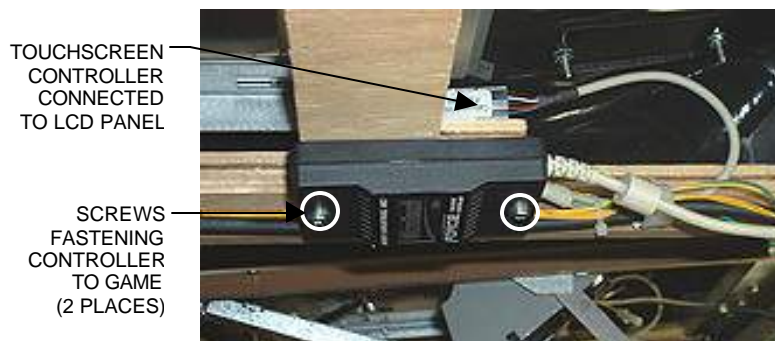

FIGURE 6 - FUSION WITHOUT ELECTRONICS BOX - TOUCHSCREEN CONTROLLER MOUNTED ON BEZEL
4. If you will not be reusing the existing touchscreen, remove the screws fastening the touchscreen controller to the game and disconnect the cable from the back of the controller. Then locate and disconnect the Molex connector (orange and gray wires) running from the touchscreen controller cable to the main power harness. After disconnecting the ground screw, pull the cables out of the clamps. See Figures 6 and 7.
If the monitor has the original touchscreen, reconnect the touchscreen controller cable to the LCD panel (see Figure 6).